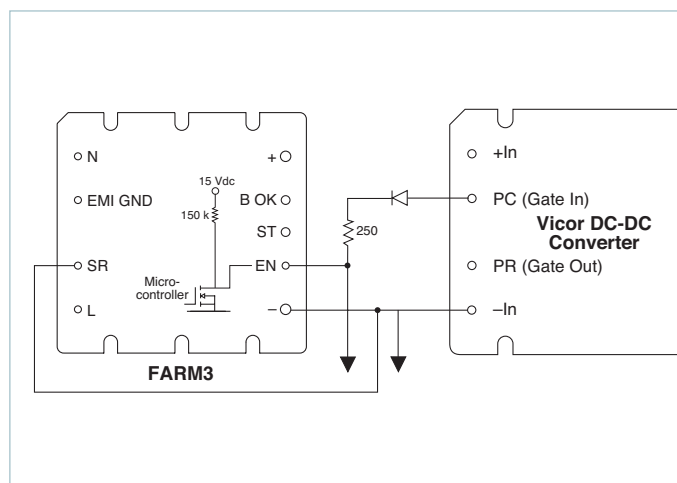

Figure 11 — Enable (EN) function
**Strap (ST) Pin:** In addition to input and output power pin connections, it is necessary to connect the Strap pin to the center junction of the series hold-up capacitors (C1, C2) for proper (autoranging) operation. Varistors V1 and V2 provide capacitor protection. The bleeder resistors (R1, R2) discharge the hold-up capacitors when power is switched off. Capacitors C7 and C8 are recommended if the hold-up capacitors are located more than 3 inches (75mm) from the output pins.
**Enable (EN) Pin:** The Enable pin must be connected to the PC or Gate-In pin of all converter modules to disable the converters during power-up. Otherwise, the converters would attempt to start while the hold-up capacitors are being charged through the current limiting thermistor, preventing the bus voltage from reaching the thermistor bypass threshold, thus disabling the power supply. The Enable output (the drain of an N channel MOSFET) is internally pulled up to 15V through a 150k $\Omega$  resistor. (see Figure 11)